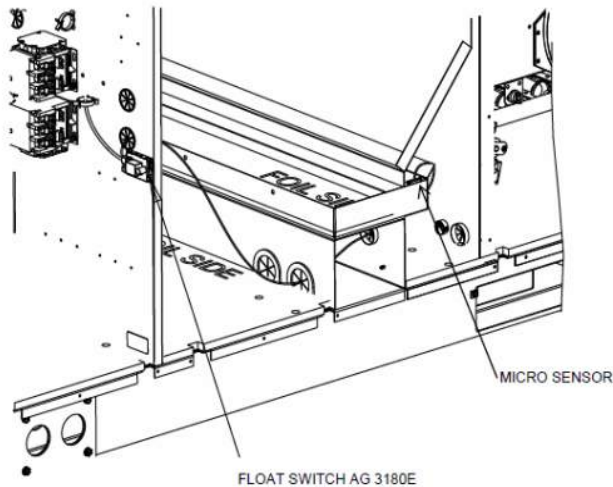

FIGURE 23
7. Route the 2 way connector from the control box through the bushing underneath the coil support as shown in Figure 23.